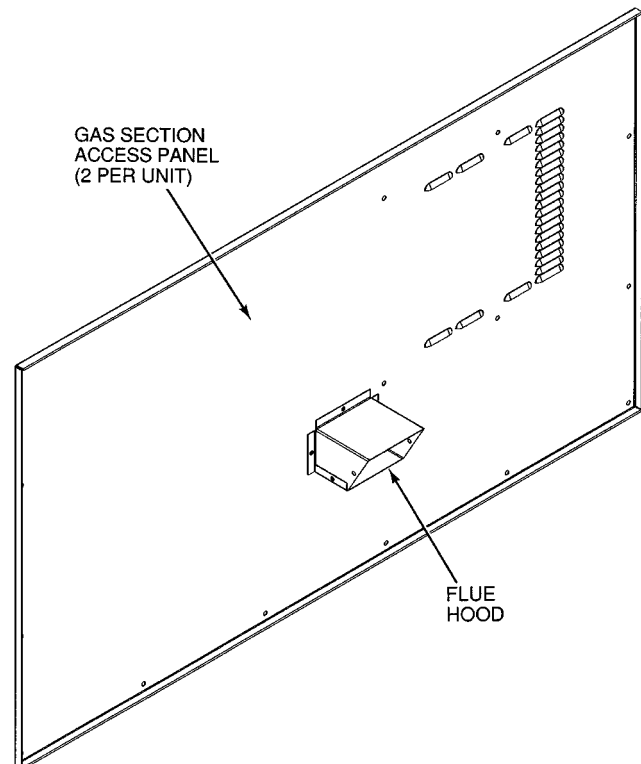

Fig. 10 — Flue Hood Location
Step 4 — Install Flue Hood — Flue hood is shipped inside gas section of unit. To install, secure flue hood to access panel. See Fig. 10.